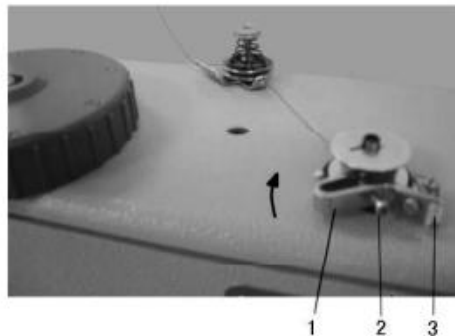

Figure 6
- (1) Install the bobbin onto the bobbin shaft.
- (2) Thread the wire as shown in Figure 6 and cut the thread end on the wire cutter 3. The thread end will automatically get stuck under the wire cutter.
- (3) Press wrench 1 in the direction of the arrow shown in the diagram to start the machine.
- (4) When the winding is full, wrench 1 will automatically pop open and the winding will stop. The winding amount should not exceed 80% of the total winding amount. The thread quantity is adjusted by screw 2.
- (5) After winding, remove the bobbin and use a wire cutter 3 to cut the wire.